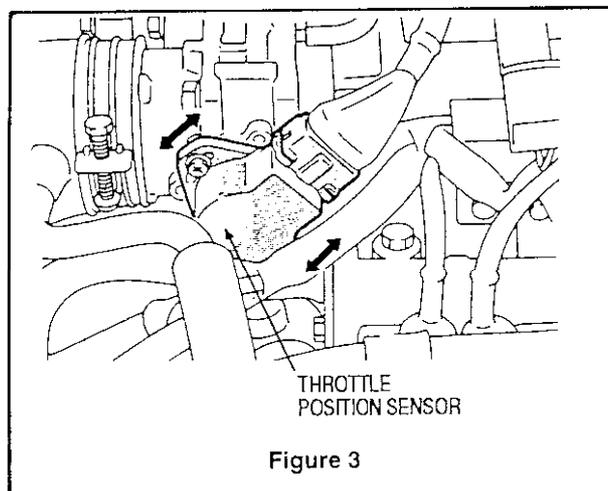

Figure 3
2. To adjust the TP sensor output, loosen the TP sensor mounting screws and rotate the TP sensor, figure 3.
6. Backprobe terminal no. 3 with a DVOM to ground, figure 3. It should indicate 3.8 to 4.2 volts at sea level.
4. With the engine at normal idle speed, the scope pattern should be similar to figure 3.